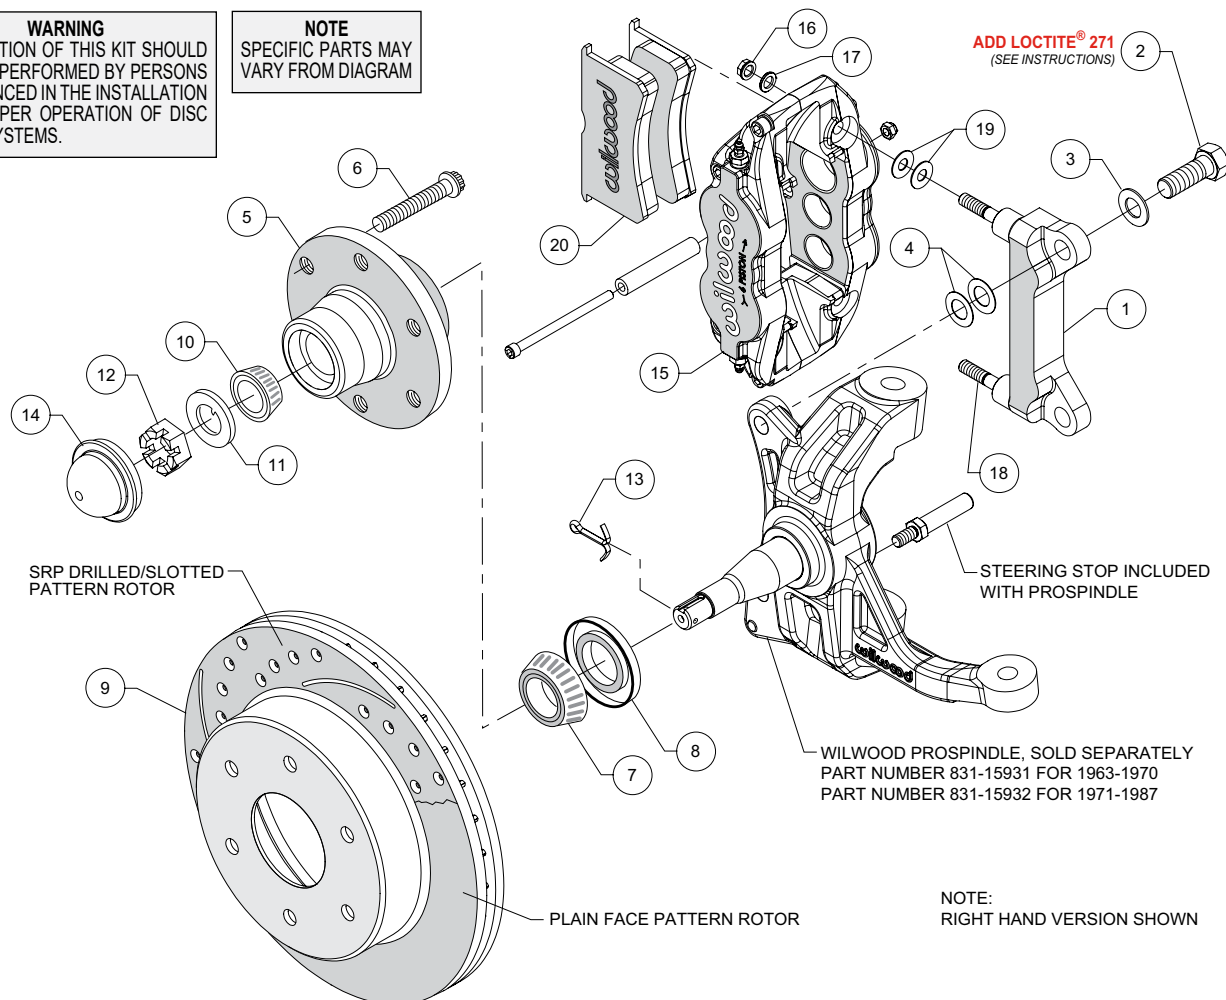

Figure 1. Typical Installation Configuration
**Assembly Instructions** (numbers in parenthesis refer to the parts list and Figure 1 on the preceding pages):
- Install the steering stop bolt (included with the ProSpindle) into the spindle as shown in Figure 1 and Photo 1. Torque to 25 ft-lbs.
- The caliper mount bracket (1) should initially be installed with clean, dry threads on the mounting bolts. Orient the bracket, as shown in Figure 1 and Photo 2, and install using bolts (2) and washers (3). Initially place two .024" thick shim (4) on each bolt between the bracket and spindle, Figure 1. Temporarily tighten the mounting bolts. **NOTE: The bracket must fit squarely against the mount bosses on the spindle.** Inspect for interference from casting irregularities, machining ridges, burrs, etc. Later, after the caliper alignment has been checked, the mount bolts will be secured using red *Loctite*® 271.
- Install wheel studs (6) into the hub (5), Photo 3. Torque to 77 ft-lb.
- Pack the large inner bearing cone (7) with high temperature disc brake bearing grease (available from your local auto parts store) and install into the backside of the hub (5), Photo 4.
- Install the grease seal (8) by pressing into the backside of the hub (5), flush with the end of the hub, Photo 5.
- Pack the small outer bearing cone (10) with high temperature disc brake bearing grease and install into hub (5). Slide the hub assembly onto the spindle. Secure using spindle washer (11) and spindle nut (12), Photo 6. Adjust bearings per OEM specifications. Install a new cotter pin (13).
- Press the dust cap (14) into the hub (5). **NOTE: Do not hammer center of cap. Install using outer flange only.**
- Slide the hat/rotor (9) onto the hub (5), Photo 7. **NOTE: The hat must fit flush against the hub face or excessive rotor run out may result.** Install three lug nuts (finger tight) to keep the hat/rotor in place while continuing with the installation, Photo 7.
- **NOTE: This kit contains distinct right and left hand calipers that must be mounted in a specific direction, as described below.** Initially place two .035" thick shims (19) on each stud (18) between the caliper and the bracket, as shown in Figure 1 and Photo 8. Mount the caliper (15) onto the bracket (1) using lock nuts (16) and washers (17), Figure 1. Temporarily tighten the lock nuts. Ensure that the caliper is mounted so that the largest pistons are at the rotor exit end of the caliper, in relation to the direction of rotor rotation. View the rotor through the top opening of the caliper. The rotor should be centered in the caliper, Photo 9. If not, adjust by adding or subtracting shims (4) between the bracket and the spindle. Always use the same amount of shims on each of the two mounting bolts. Once the caliper alignment is correct, remove the bracket mounting bolts one at a time, apply red *Loctite*® 271 to the threads, and torque to 140 ft-lb.